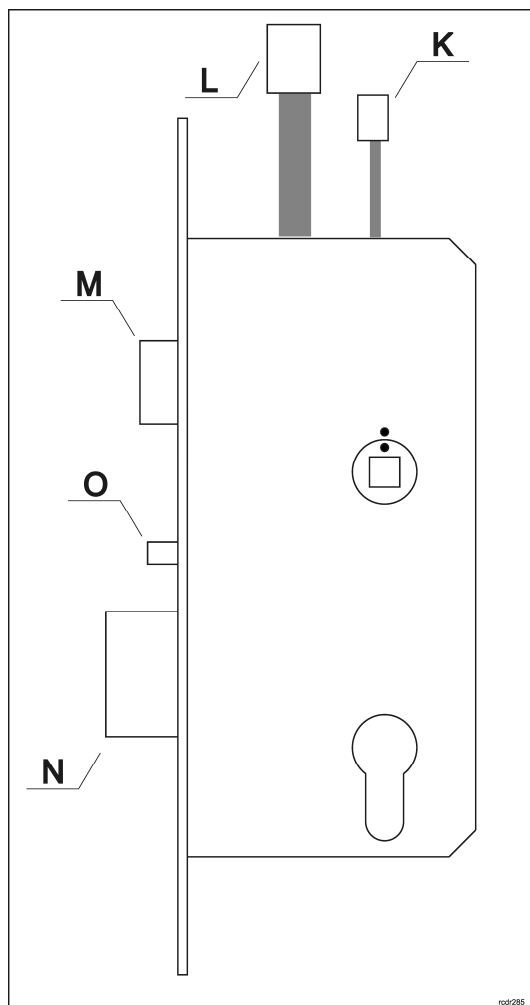

Fig. 6. Mortise lock
2. Connect the lock to RUD-1 interface using dedicated cable (fig. 6).